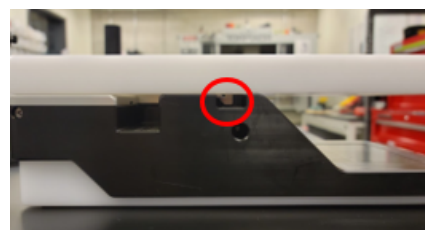

Figure 52: Fully Engaged Latch
8. To complete assembly, **swing the arm of the flow cell assembly tool down until both latches on either side of the tool have engaged** (Figure 52). Once engaged, both green release buttons will pop out